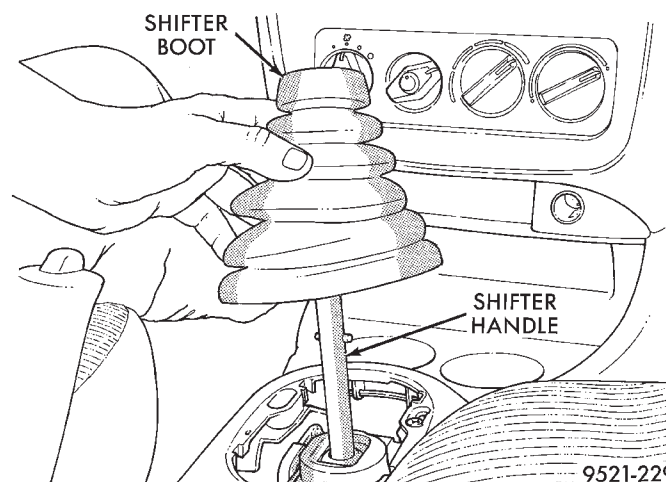

Fig. 139 Boot Removal
- Remove the shifter boot from the center console. Shifter boot is removed by squeezing the bezel together at the base of the shifter boot and pulling upward on the boot (Fig. 139).